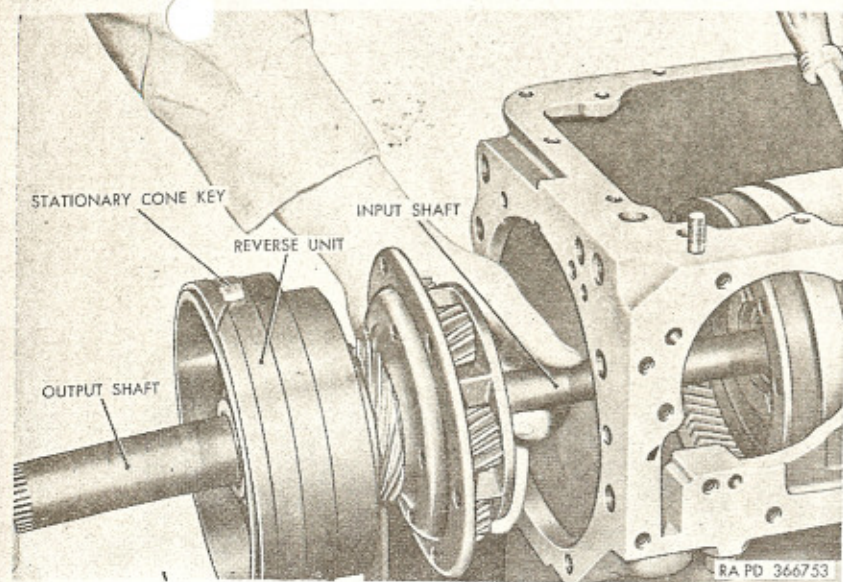

Figure 46. Removing or installing input shaft, reverse unit, and output shaft (303M).
b. Wedge large screwdriver between case center bearing cap and rear drum to prevent clutch hub thrust washer from dropping out of place. Remove remaining attaching bolt and lock strap attaching center gear flange to rear drum. Output shaft (fig. 46) can now be withdrawn. Input shaft may come out with output shaft. If remaining with transmission, remove input shaft.